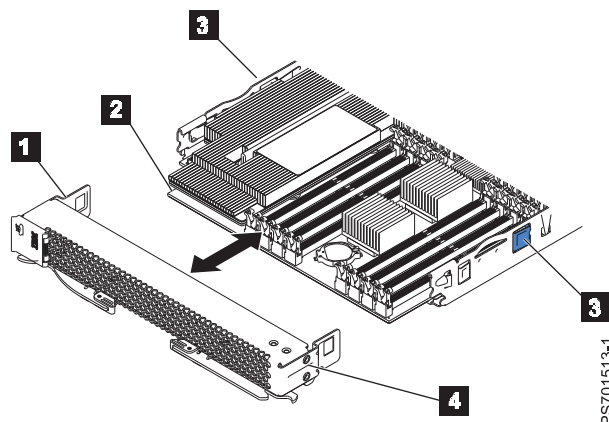

Figure 19. Removing the bezel assembly
5. Press the cover-assembly release (as shown by **3** in Figure 19) on each side of the blade server and pull the bezel assembly (**4**) away from the blade server approximately 1.2 cm (0.5 inch).